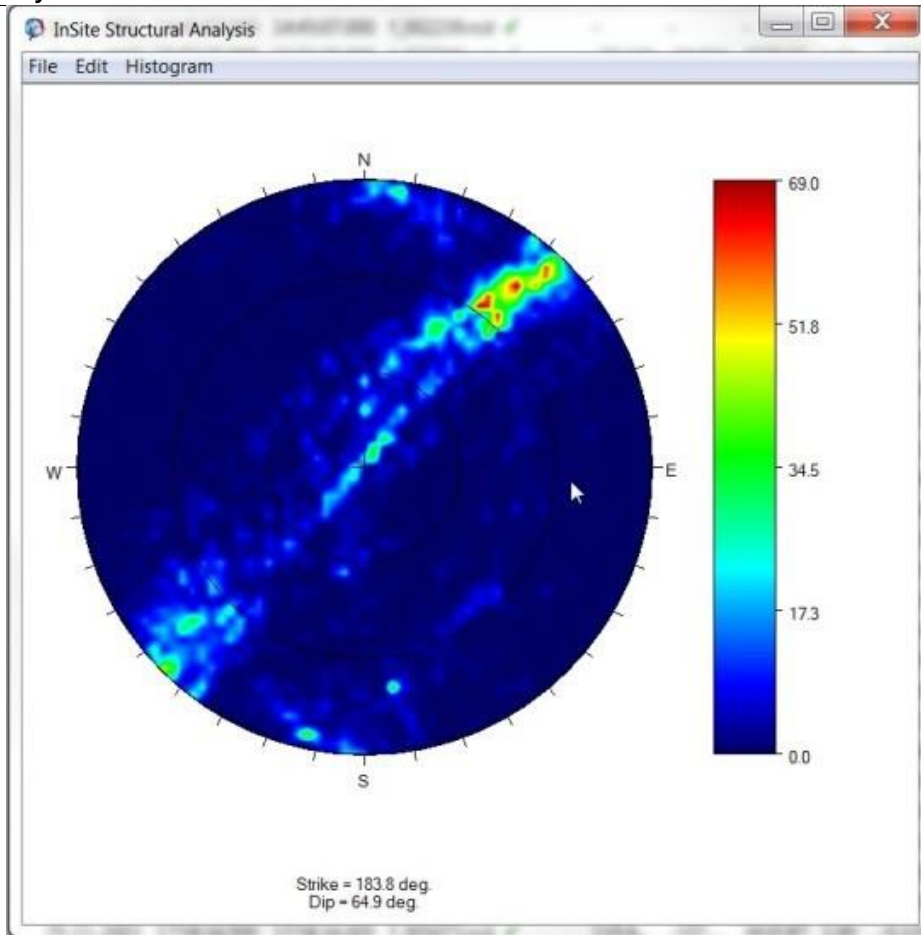

Figure 15-6: Output with the results of the structural analysis of a sample population of events.
3. The density distribution is automatically displayed (Figure 15-6). The scale limits and the colour scale can be adjusted clicking the Edit option in the stereograph window bar. The dip and strike angles are displayed below the plot when the cursor is hovered over the stereonet.